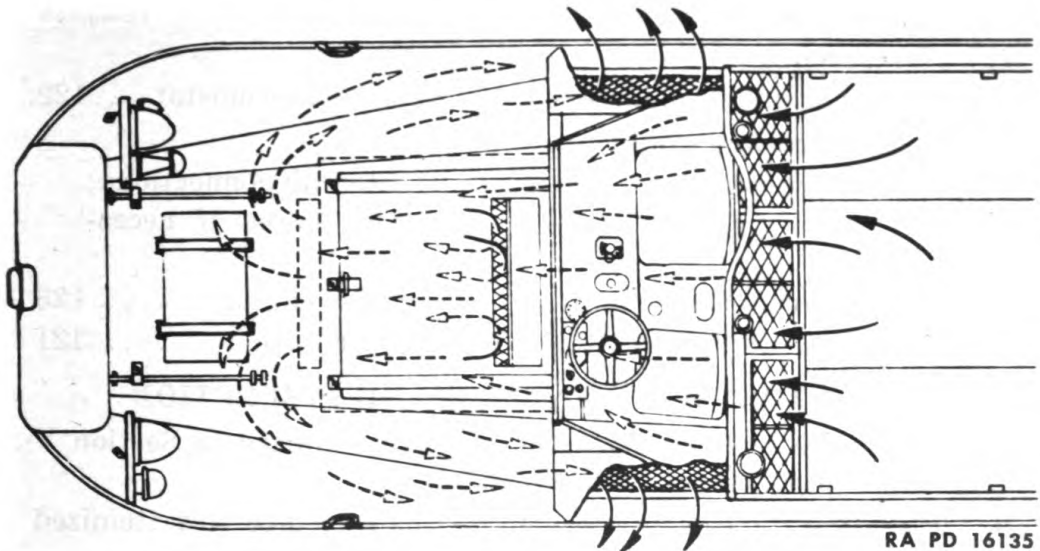

Figure 91—Cooling Air Circulation
a. **General.** Water is drawn from bottom of radiator by action of water pump and is force-circulated through passages and water jackets in engine and returned, through upper connections, to radiator where it is cooled by action of fan blowing air through radiator core. Fan draws air through intake grille, located just to rear of driver's compartment floor, forces air through shroud and radiator core, through exhaust ducts and out air exhaust grille. Air, for operation of vehicle with tarpaulin installed is taken in through auxiliary air intake. Refer to Fig. 91.